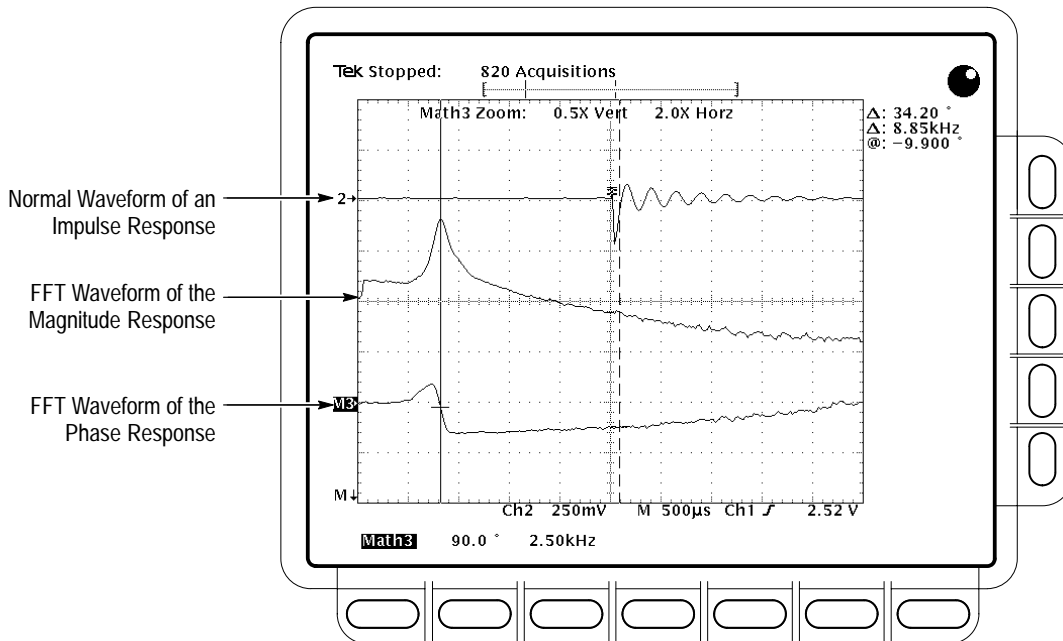

Figure 3-96: System Response to an Impulse
The resulting waveform is a display of the magnitude or phase angle of the various frequencies the waveform contains with respect to those frequencies. For example, Figure 3-96 shows the untransformed impulse response of a system in channel 2 at the top of the screen. The FFT-transformed magnitude and phase appear in the two math waveforms below the impulse. The horizontal scale for FFT math waveforms is always expressed in frequency per division with the beginning (left-most point) of the waveform representing zero frequency (DC).